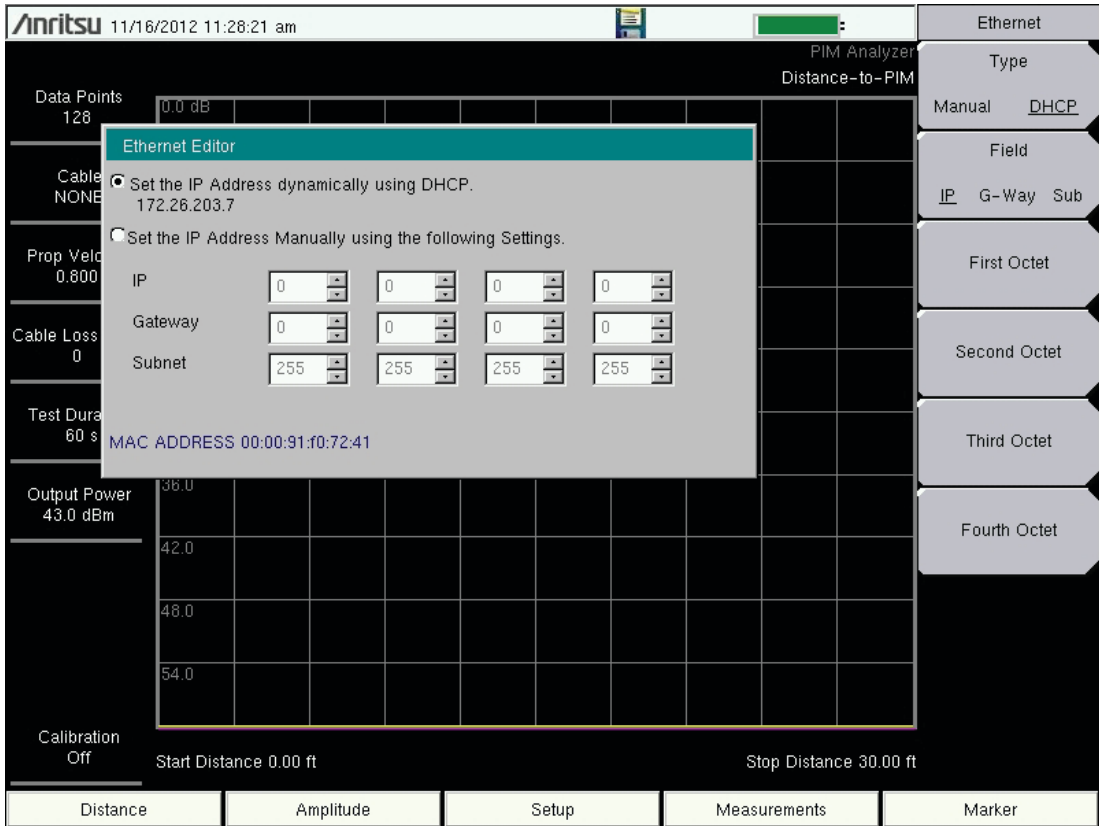

Figure G-1. IP Address Assigned Using DHCP
To display the IP address with the instrument on, press the **Shift** key, then the **System** (8) key, then the **System Options** submenu key and the **Ethernet Config** submenu key. The IP address will be displayed as shown in Figure G-1. The image on the display panel of your PIM Master may differ from the image shown here.